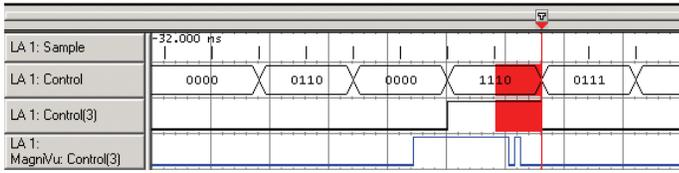

Figure 11. MagniVu waveform of Control (3) showing glitch.
In this example, it appears there may be two different problems causing glitches. To examine the Control (3) signal line further, the MagniVu trace for the Control (3) signal is displayed. Figure 11 shows that because of its higher resolution, the MagniVu waveform reveals that the glitch only appears at the end of a digital pulse – not at the beginning of the pulse, and not by itself. This is an important clue to the cause of the fault.